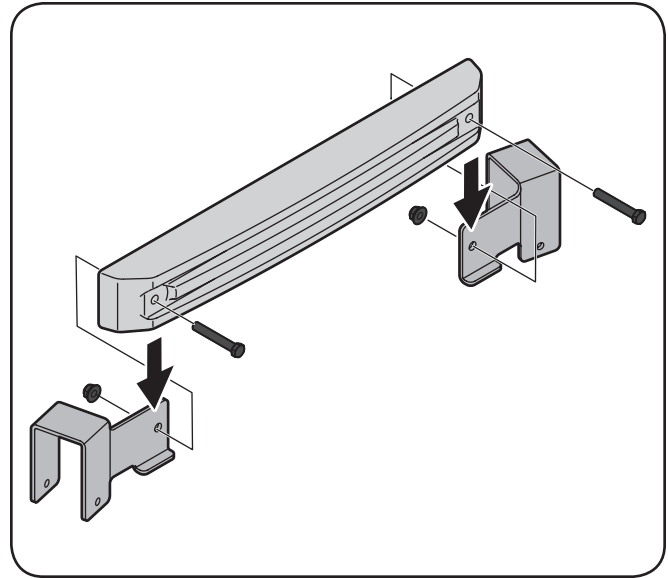

Figure 4-24
1. Attach the left mounting bracket and the right mounting bracket to the weight bar using two 2 1/2-inch screws (710-0859), and 3/8" flange nuts (712-04065) from hardware pack 689-00325. See Figure 4-24.